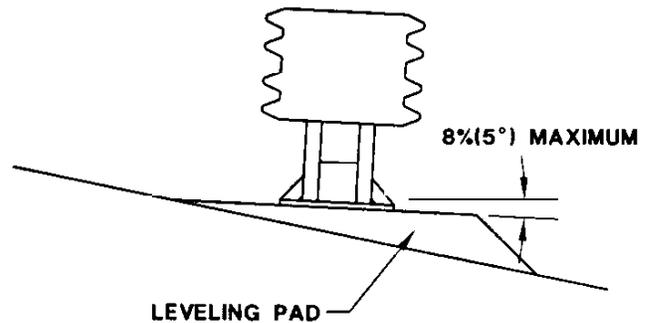

Figure 4: Slope
6. Is there a cross slope? If there is a cross slope of more than 8% (5°) or if the cross slope varies more than 2% (1°) over the length of the system, a concrete leveling pad may be required. (See Figure 4)